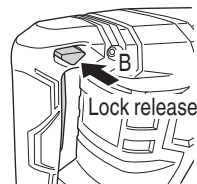

Fig. 8
- To release the lock, push the push button toward "B". (Fig. 8)